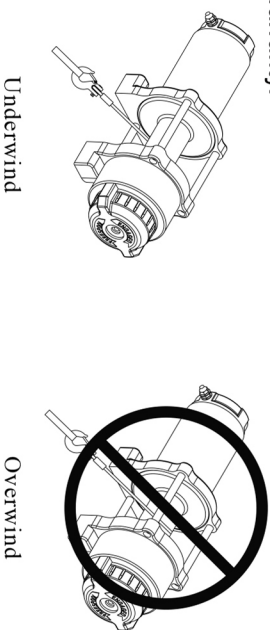

Fig. 5
**CAUTION** This winch must be mounted with the rope in the under wound direction ( Fig. 5 ) Improper mounting could damage your winch and void your warranty.